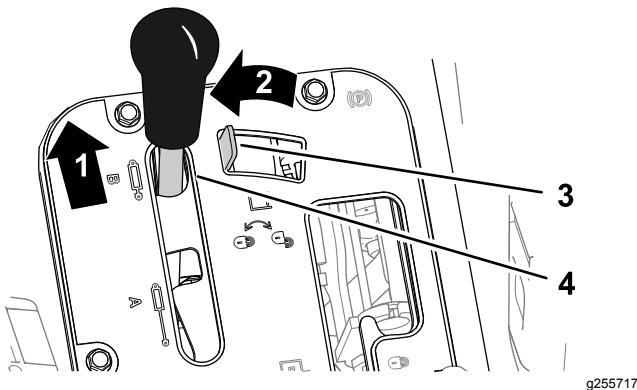
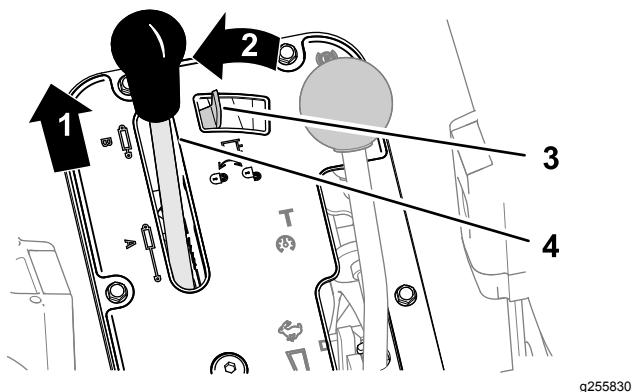

Figure 80
Figure 81
- Push forward the hydraulic-lift lever (Figure 80 or Figure 81).
- Move the hydraulic-lift lock left to engage the lock (Figure 80 or Figure 81).